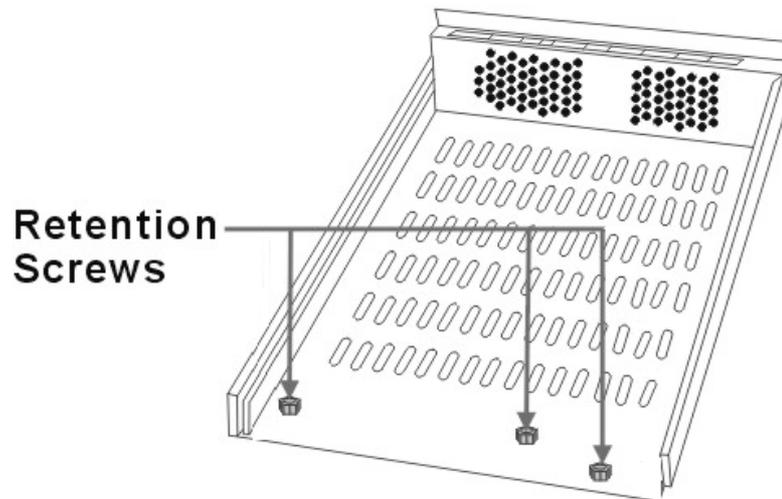

Figure 2-13: Empty Drive Tray: Dongle Kit Retention Screws
Step 3. Locate the drive tray retention screw holes. Three (3) corresponding pre-drilled screw holes can be found at the back of the drive tray shown in *Figure 2-13*.